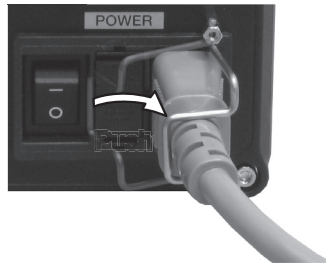

Fig. 17
- (3) Secure the power cord by use of power cord hook. (Refer to Fig. 17.)